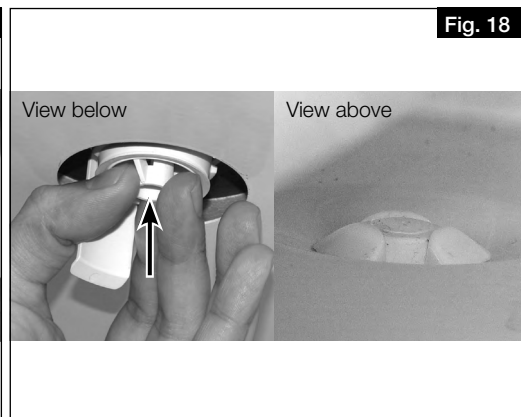

Fig. 18
2. Plug the mounting part in the condensate outlet from below, until the claw fasteners snap to the sheet edge of the base plate (Fig. 18).